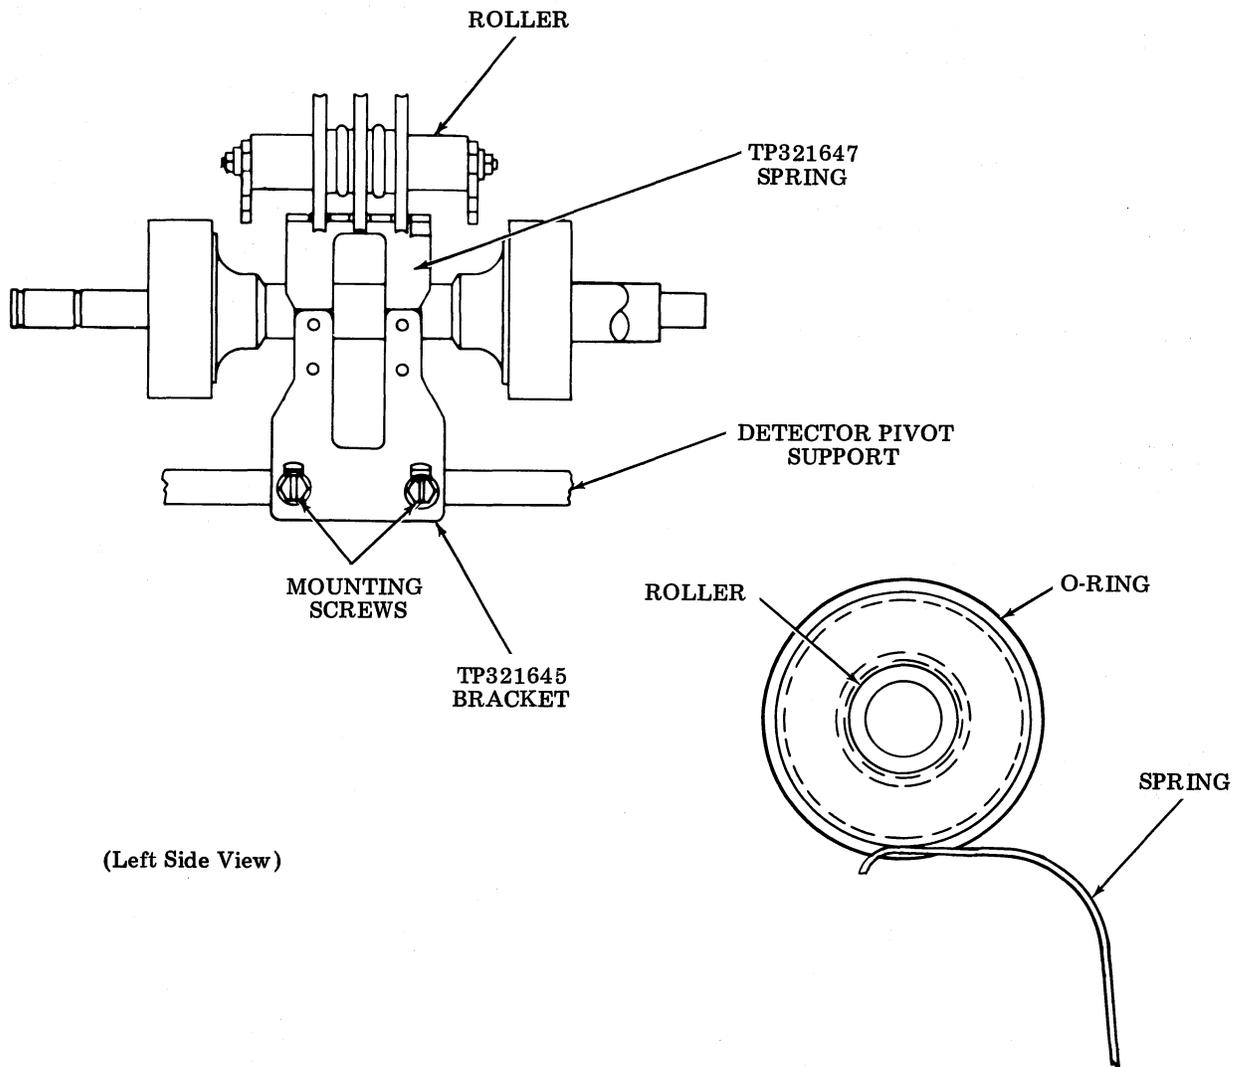

Figure 3 - Optional Support Bracket Assembly Required for Feeding 7 Inch Cards
- (b) Mount the support bracket assembly on the TP320135 detector pivot support with two TP151632 screws, TP2191 lock-washers, and TP7002 flat washers (Figure 3). Tighten the screws friction tight.